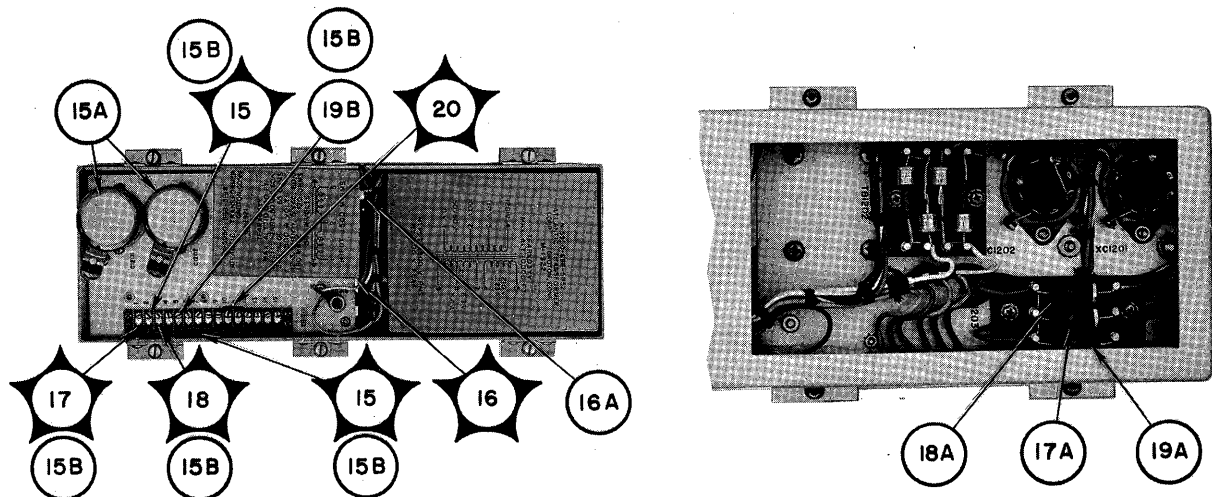

Figure 5-7. Demodulator Power Supply, Location of Test Points
*e.* DEMODULATOR POWER SUPPLY TROUBLE-SHOOTING CHART.—Table 5-6 is the trouble-shooting chart for the demodulator power supply. Perform the steps in the order given and compare the results with those listed in the NORMAL INDICATION column. If an indication is abnormal, follow the instructions given in the NEXT STEP column. Figure 5-7 shows the location of test points.